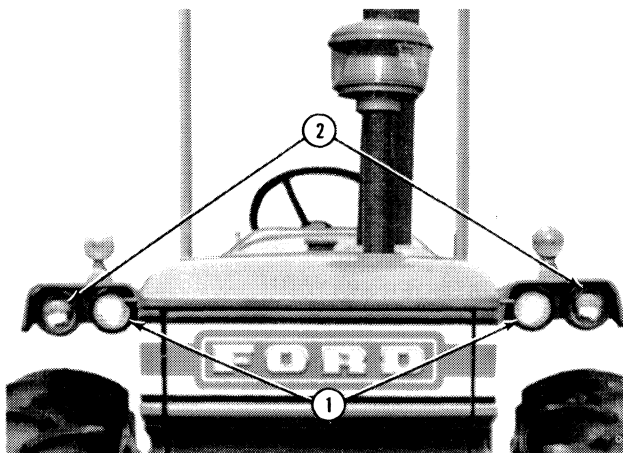

Figure 3
The flasher light/work light switch (3), Figure 2, is used to control the work lights and the flasher/turn signal lights. See Figures 3 to 6. The switch positions are: